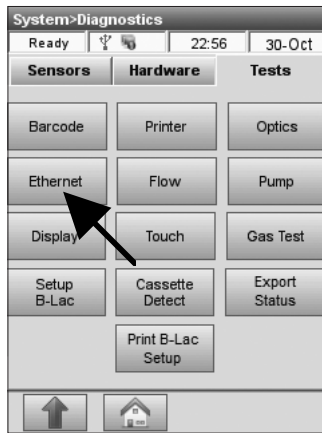

Fig. 8-20 Ethernet Test
- Press **<Ethernet>** to start the test (Fig. 8-20).